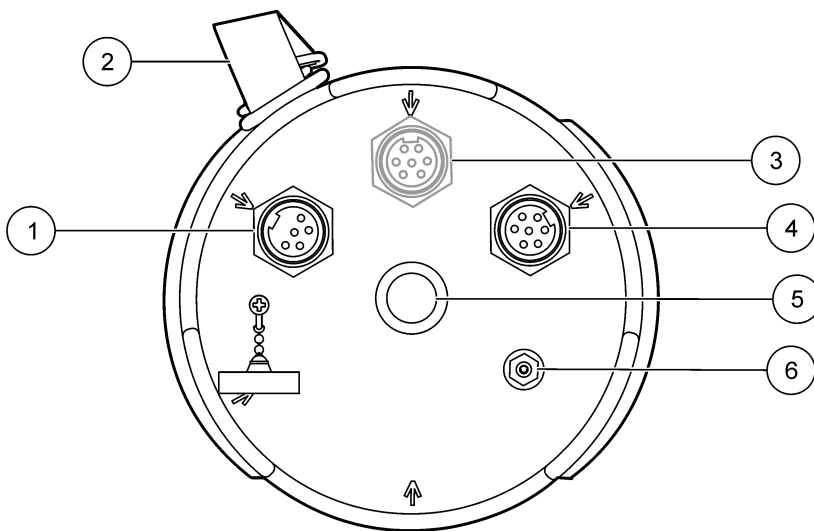

Figure 2 Flo-Logger connections
Make sure that a new desiccant cartridge is attached to the atmospheric pressure reference (APR) port found on the bottom of the Flo-Logger housing (Figure 2, item 6). The desiccant cartridge prevents the buildup of moisture. Moisture and other unwanted material can change the precision of the surcharge level pressure transducer. When a desiccant cartridge becomes pink, replace it with a new blue cartridge. Two cartridges can be used in series for long-lasting protection. Desiccant cartridges can be purchased from the manufacturer.
1. Find the nylon mounting strap on the unit (Figure 2, item 2).